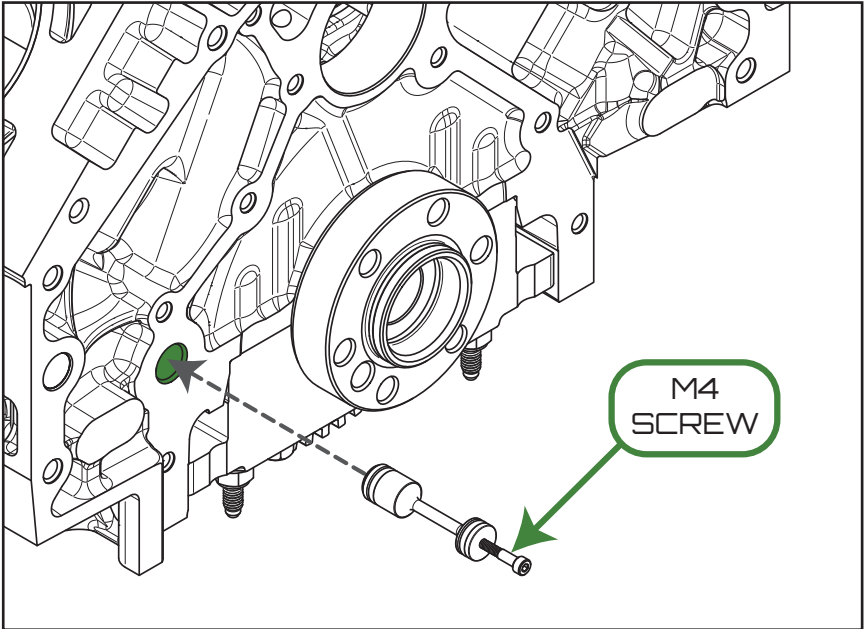

Figure 2 - Rear galley plug installation
1. Use a flat prying tool to remove the OEM plastic plug from the left rear oil passage of the engine block (see Figure 2 for hole location).
4. To assist with installation, a M4x0.7 screw may be loosely threaded into the rear of the plug. Carefully insert the plug into the left rear oil passage as shown in Figure 2. If installed correctly, the rear of the plug should sit flush with the engine block's sealing surface for the rear engine cover.